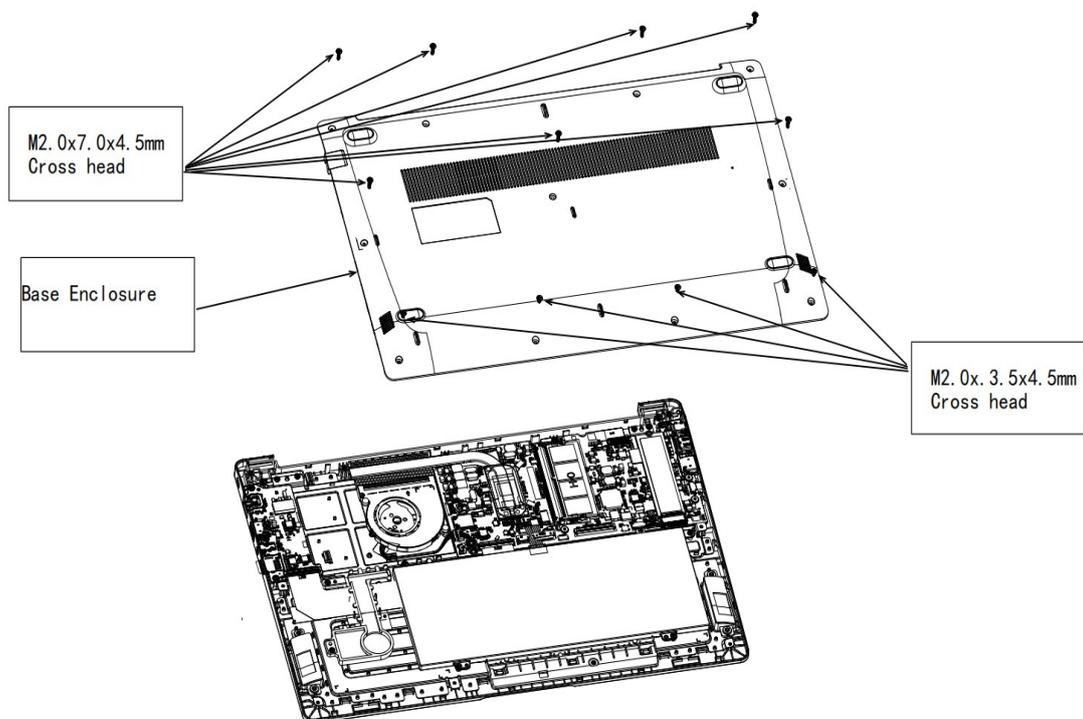

Figure 4-7 Removing Base Enclosure
- Figure 4.7 Removing the CPU Cooling Module and Fan 4-19
- Figure 4.7 Applying silicon grease (CPU) 4-20
Remove Base Enclosure according to the following procedures and Figure 4-7.
Install Base Enclosure according to the following procedures and Figure 4-7.